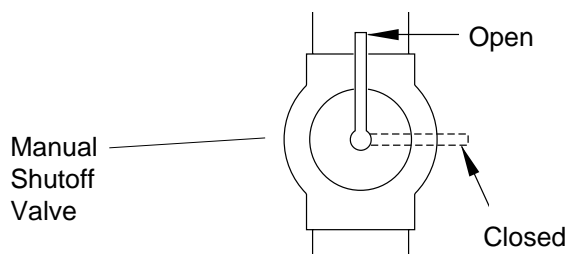

Figure 20 - Manual Shutoff Valve
1. Close manual shutoff valve (see Figure 20).
1. Open manual shutoff valve (see Figure 20).
4. Check all joints from manual shutoff valve to thermostat gas valve (see Figure 20). Apply mixture of liquid soap and water to gas joints. Bubbles forming show a leak.